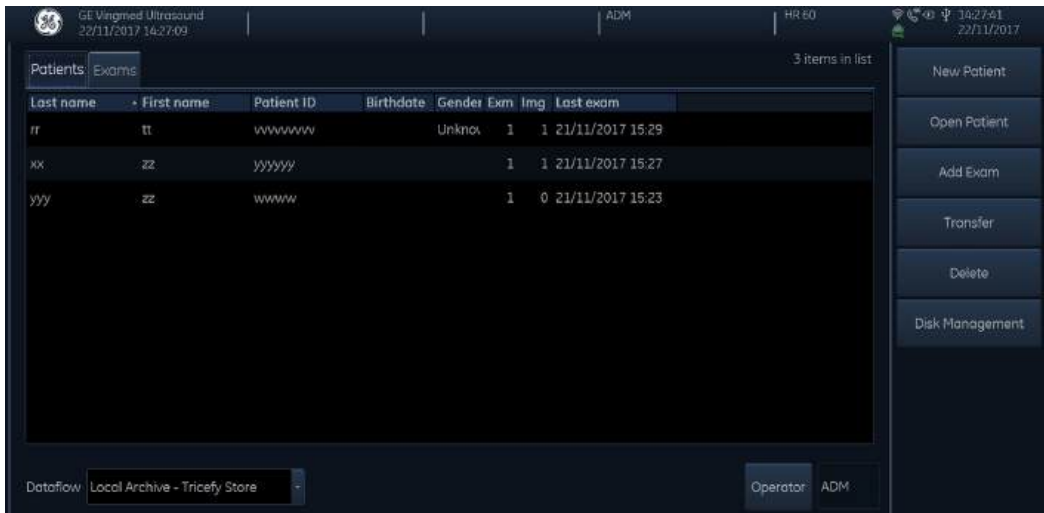

Figure 3-67. The Patients/Exams list
1. Press **Transfer** from the Patients/Exams list (see Figure 3-67).
The *Transfer* screen is displayed (see Figure 3-67).